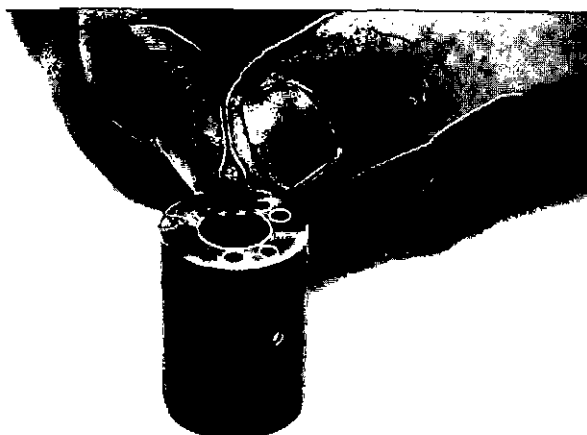

Fig. 2-35, (F60190). Install the check ball in the barrel
2. Drop the check ball into the top of the barrel, Fig. 2-35.